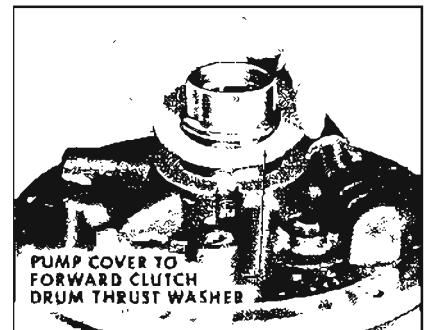

Figure 5-321
2. Grease and install selective fit washer to pump cover hub. See Figure 5-321.